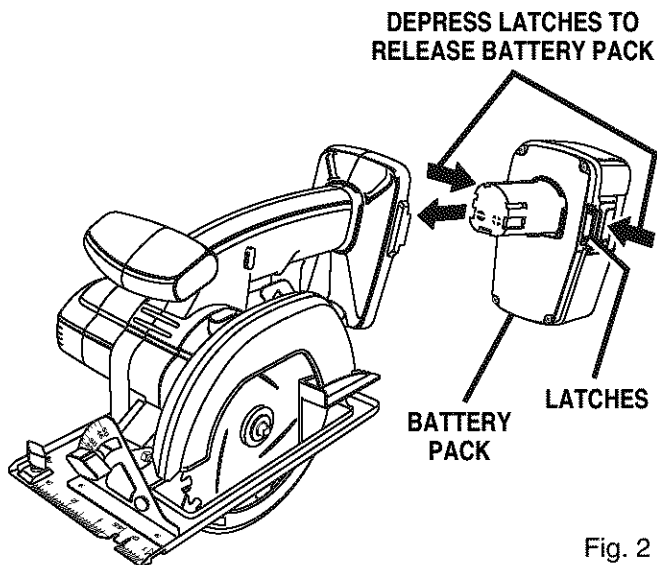

Fig. 2
- Locate latches on end of battery pack and depress to release battery pack from your saw. See Figure 2.
See Figure 2.